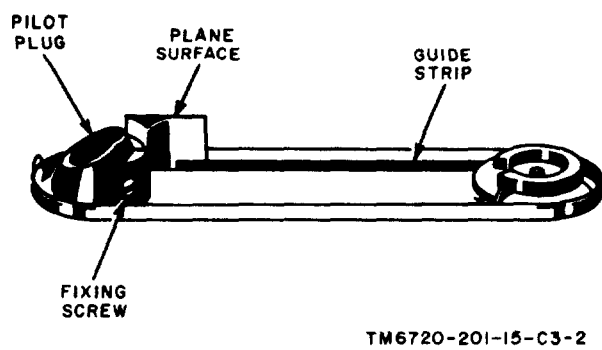

Figure 20.2. Base plate with spacer.
(2) Slip the spacer onto the pilot plug in base plate, so that the plane surface rests against the guide strip, parallel to the long side of the base plate. Tighten the fixing screw (fig. 20.2).
(3) Secure the stick-on film loading diagram over the diagram engraved in the camera body.